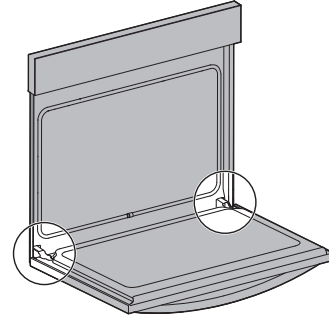

Figure 9: Door hinge location
1. Open oven door completely, horizontal with floor (Figure 9).
3. Fully open the oven door, horizontal with floor (Figure 9).